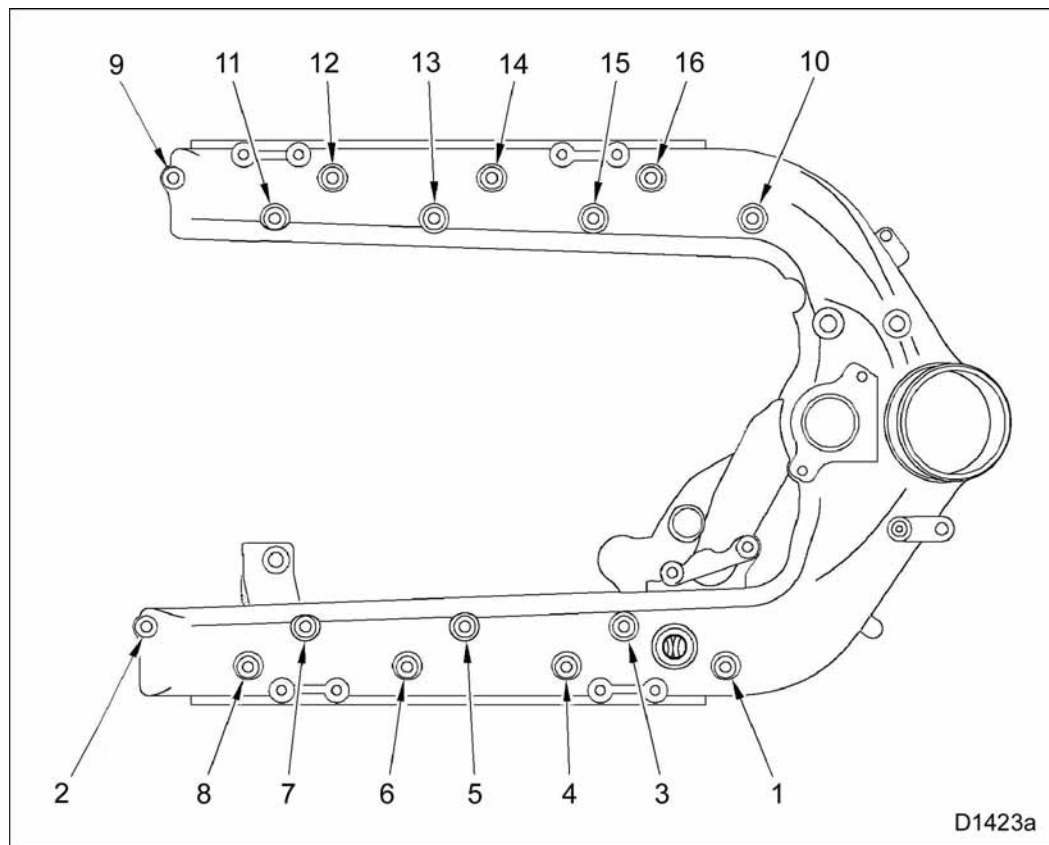

Figure 116 Torque sequence for intake manifold mounting bolts
6. Torque dog point bolts and stud bolts to the special torque value (Table 8) (Figure 116).